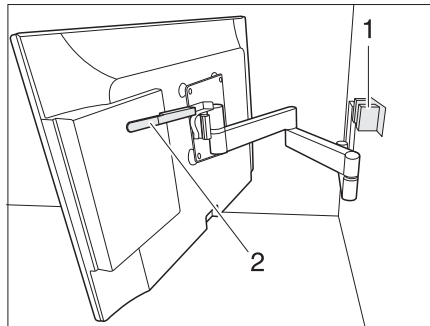

Fig. 54 Holder with jointed arm
- Press the lever (Fig. 54,2) downwards to release the flat screen from the latch (Fig. 54,1). Release the lever.